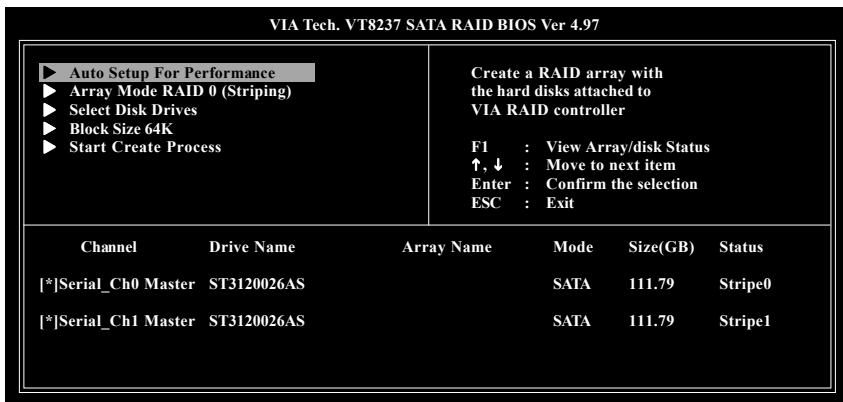

Figure 7
**Select Disk Drives** lets users select the array drives by their requirements. Select the **Select Disk Drives** item and press ENTER, use the ARROW keys to select the target hard drive(s). The selected hard drives will be marked with an asterisk (Figure 7).